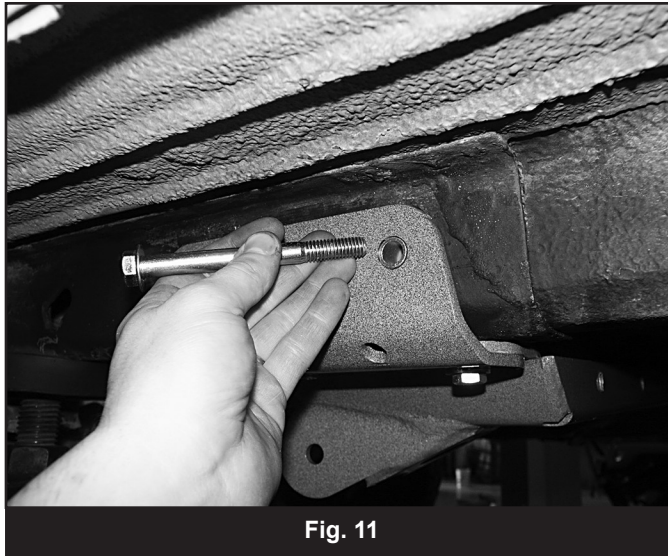

Fig. 11
24. Install a 3/8" USS washer on a 7/16" x 4-1/2" bolt (BP 715) and insert it into the frame crush sleeve. Push the bolt and sleeve all the way into the frame so that the sleeve is against the inside surface of the frame and the bolt is sticking out of the inside 7/16" hole. Fasten the bolt on the inside of the frame with a 3/8" USS washer and 7/16" nut from bolt pack 715 (Fig 11). Leave hardware loose. Ensure that the bolt does not hit the fuel or brake lines. Reform these lines as necessary.